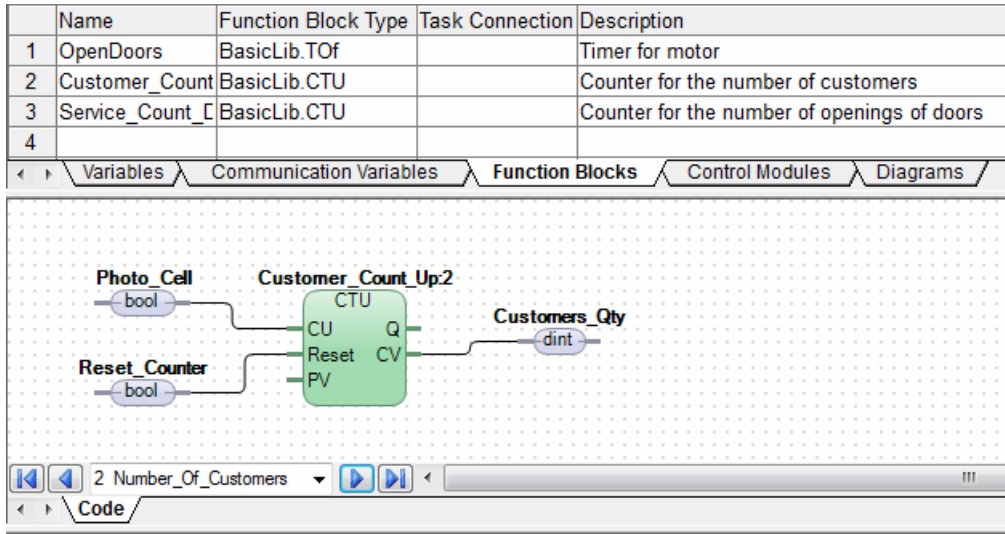

Figure 28. Variable connections to Customer_Count_Up Function Block Type
2. Connect the variables to the **Customer_Count_Up** Function Block type as in the Figure 28.